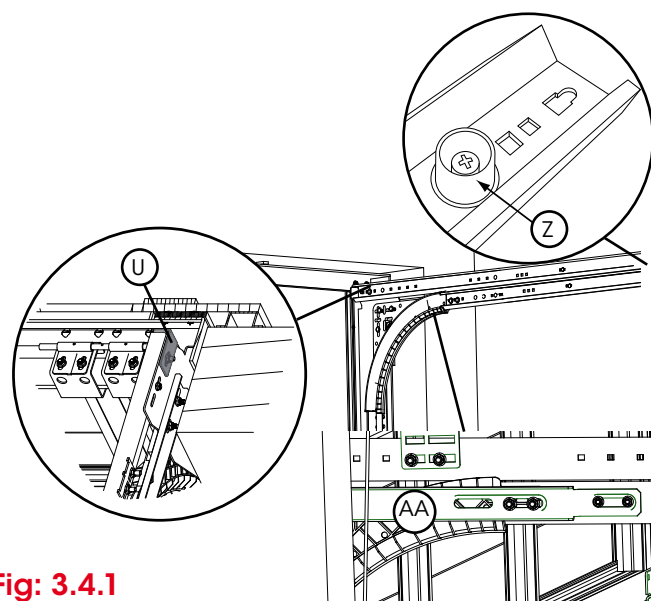

Fig: 3.4.1
- b) Install the plate stopper (U) from the outside of the top of the flag bracket and through both the top track and the flag bracket using 5/16 flat head bolts as shown in Fig 3.4.1.
- c) Place the horizontal bracket (AA) on each horizontal track as shown in Fig 3.4.1 and install the safety stop (Z) at the end of each **top** horizontal track.